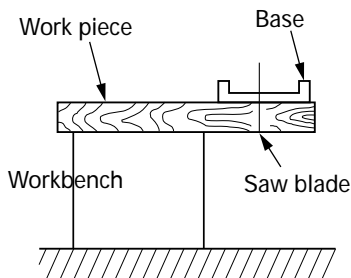

Fig. 2
6. Prepare a wooden workbench (Fig. 2)